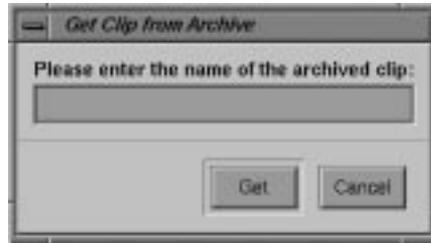

Figure G-4 Get Clip from Archive Window: Getting a New Clip
1. Choose Archive > Get New from the menu bar. The Get Clip from Archive window, as shown in Figure G-4, appears.